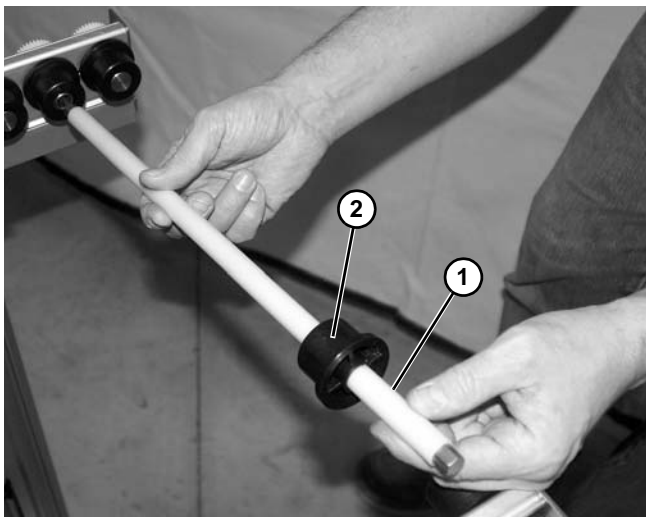

Figure 48
11. Remove shaft assembly (Figure 48, item 1) from both sides of conveyor frame.
12. Remove roller (Figure 48, item 2) from shaft cover.